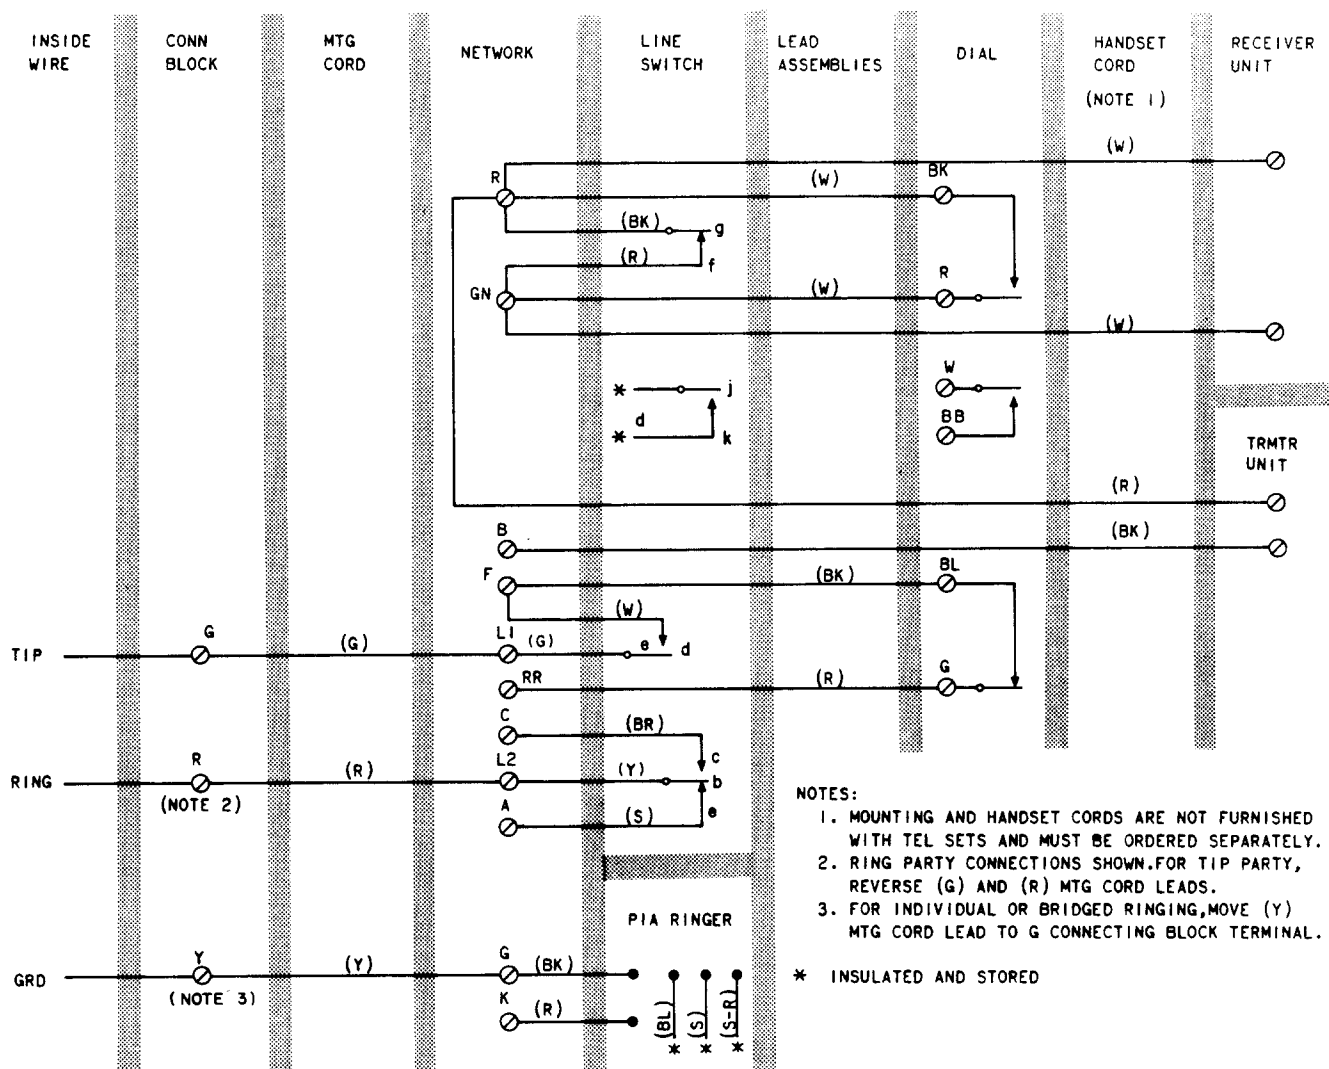

Fig. 4—F-56659 and F-56660 Telephone Set, Connections
- (2) Connect leads of mounting cord to appropriate network terminals as shown in Fig. 4.
- (2) Connect leads of handset cord to network of set (Fig. 4).
- (3) Remove receiver and transmitter caps from customer-owned handset. Insert handset leads of cord through opening in handset, guide two **white** leads through handset handle, fasten to screws of U3 or U1 (MD) receiver unit obtained from group of components.
- (4) Place receiver unit in handset cavity and replace receiver cap.
- (1) These sets are furnished wired for individual or bridged, ring, and tip party service. With minor wiring changes, set can be used for tip-party identification. Connections should be made at a suitable connecting block. Table B shows line and ringer connections. For line connections refer to Fig. 4.